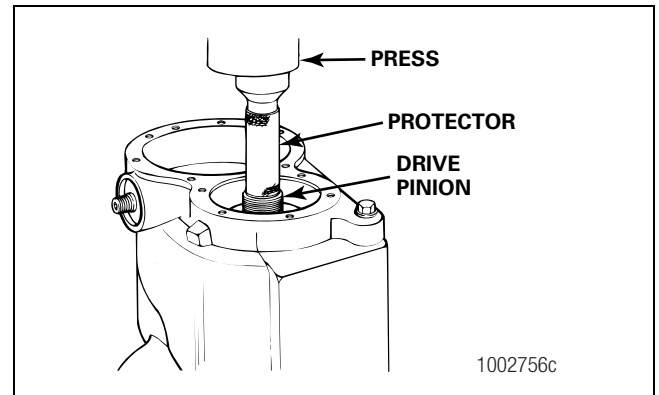

Figure 3.53
- B. Place a protector onto the top of the drive pinion shaft. Figure 3.53.